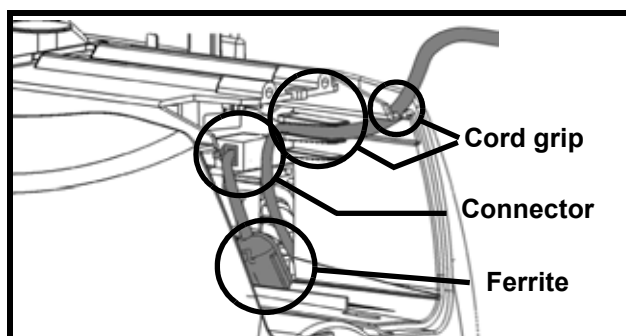

Fig. 34
- 6) Connect the hand control to the main circuit board making sure that the ferrite is not interfering inside the battery cavity and that the cable is secured passing through the cord grip built inside the main shell (see Fig. 34).
Connect the hand control to the main circuit board and insert the ferrite over the brake circuit board (see Fig 34_a).
Figure 34_a